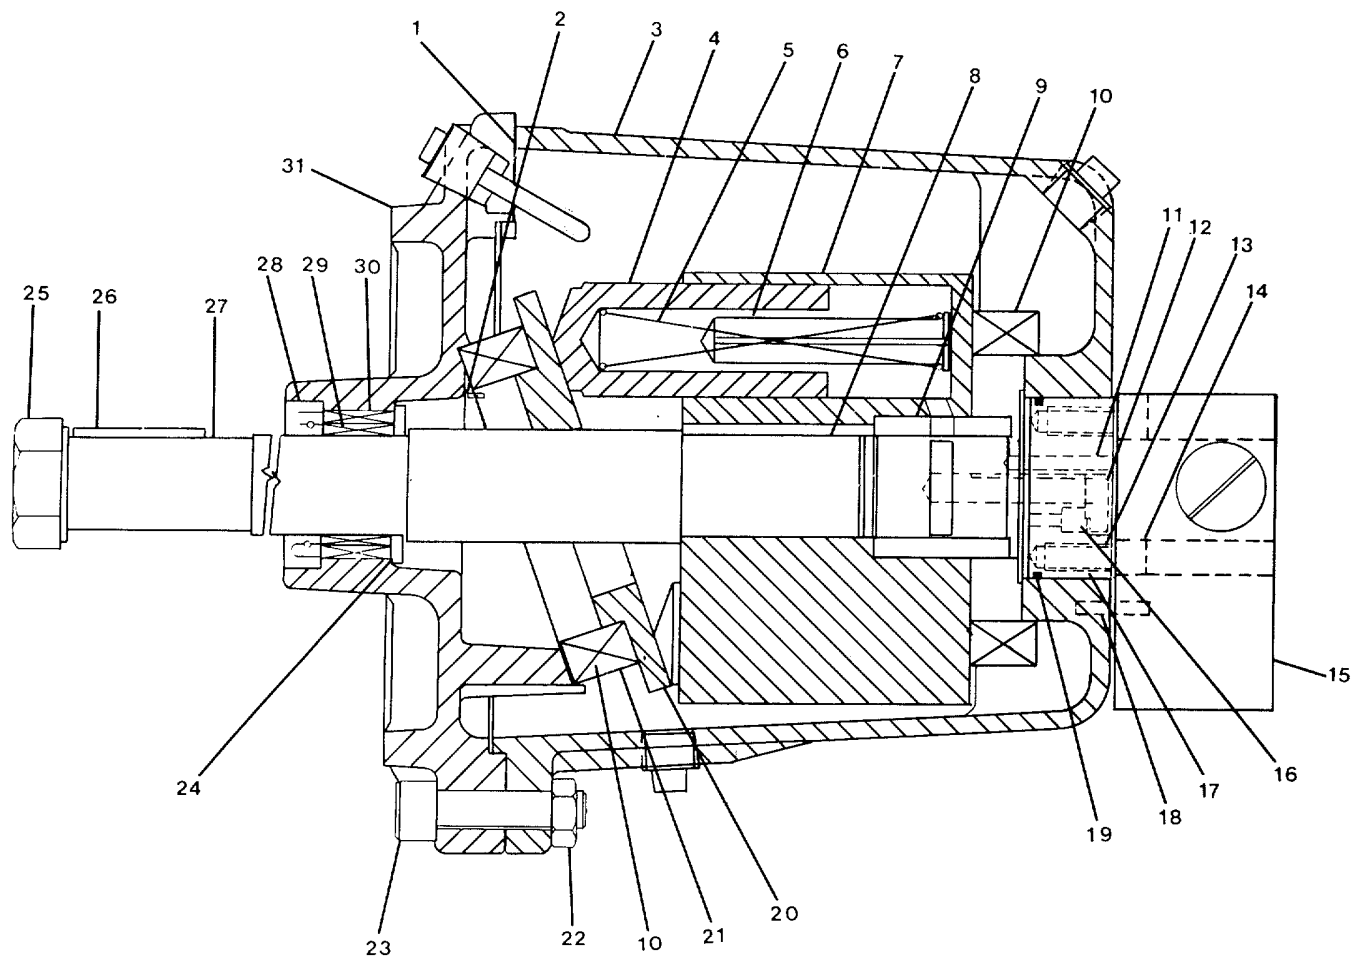

FIGURE 4-5. Helm Pump.
b. Rudder (Starboard). Repeat steps a(1) through a(7) above.c. Operate and Test.
- (1) Restore power to pumpset.
- (2) Return equipment to service.
- (3) Remove "Out of Service - Do Not Operate" tag from circuit breaker.
**4-12. Repair Helm Pump. (FIGURE 4-5)**